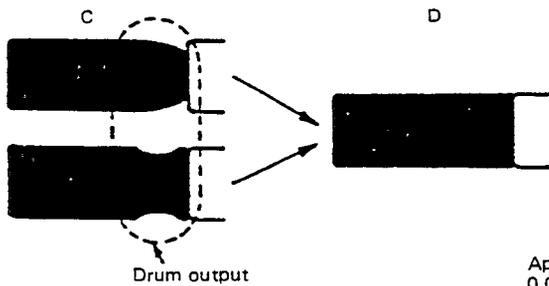

Fig. 32 Drum output adjustment
1. In the same manner as for the drum input, turn the take-up guide roller to adjust the falling portion (drum output portion) of the FM waveform. Incorrect examples are shown by C in Fig. 32, while D indicates the correct adjustment.
2. If the tape separates from the guide or wrinkling occurs at the take-up guide pole, adjust by turning screw © of the audio/control head as shown in Fig. 32.
2. If the tape separates from the take-up guide pole or wrinkling occurs, screw © (Fig. 32) has been turned excessively with respect to nut ① and screw ② causing the audio/control head to incline forward or rearward. Use care to adjust screws ②, © and nut ① evenly and observe that small wrinkles are not produced at the take-up guide pole.